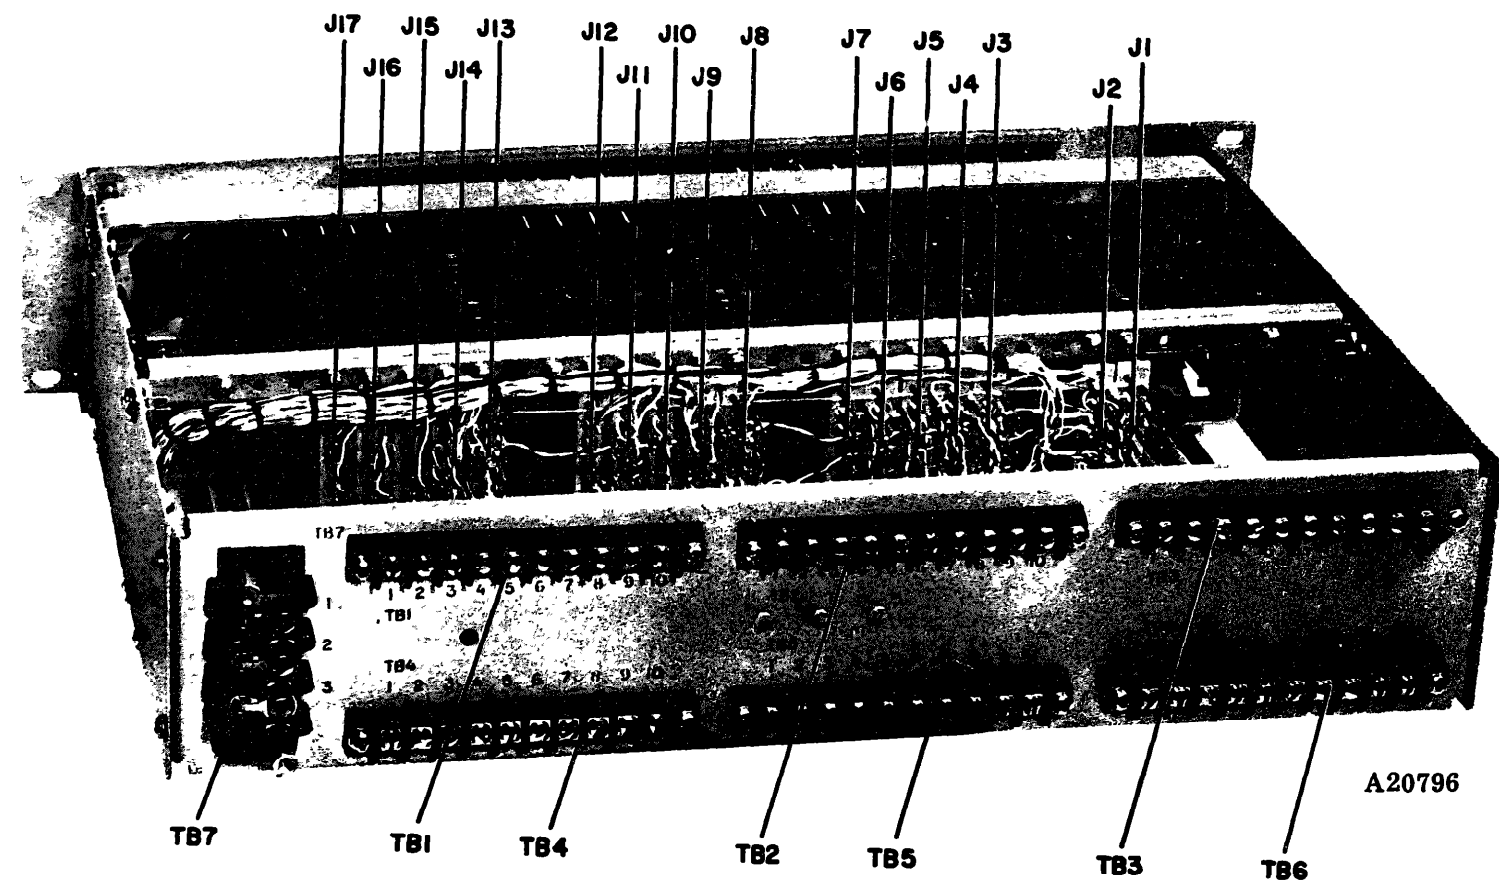

Figure 2-1. **Express** Orderwire Multidirection Unit, Rear View
-48 Vdc power is connected to TB7 terminals 1 (-) and 2 (+). All voice-frequency input and output connections are made to solderless connectors on barrier-type terminal strips at the rear of the assembly. (See figure 2-1.) Strapping for changing the number of outputs is also accomplished at these barrier strips. Tables 2-1 and 2-2 give the printed wiring board complement and strapping options, respectively. Strapping information for the adjustable attenuator boards is given in figure 7-4.